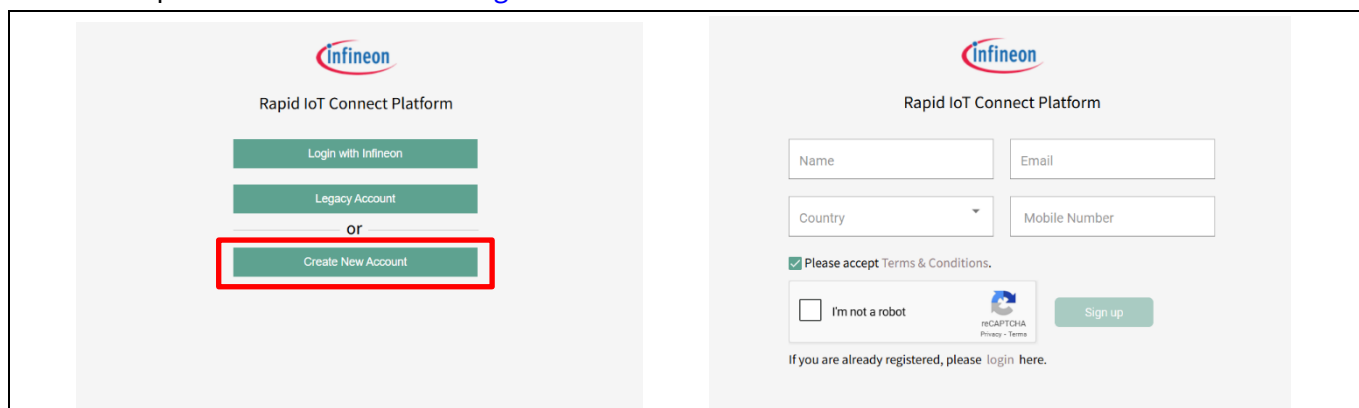

Figure 6 Rapid IoT Connect Platform signup
1. Create an account with the Infineon Rapid IoT Connect Platform by signing up with your email address and other required details as shown in Figure 6